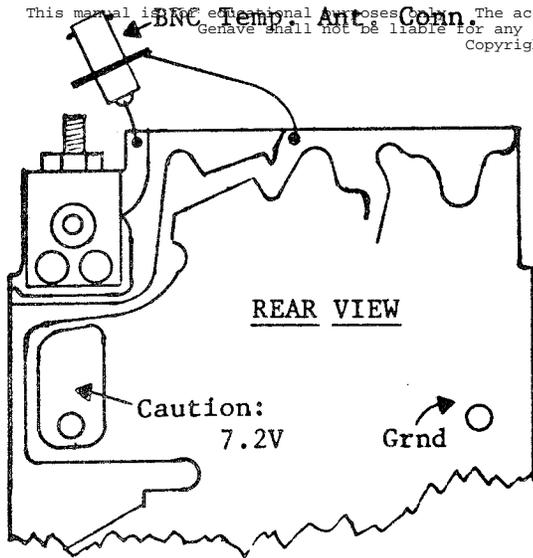

Figure 4-2. Temporary Ant. Conn.
1. For ease of test-equipment connection, a female BNC connector may be soldered temporarily to antenna connector copper pad area & adjacent ground area. See Figure 4-2.